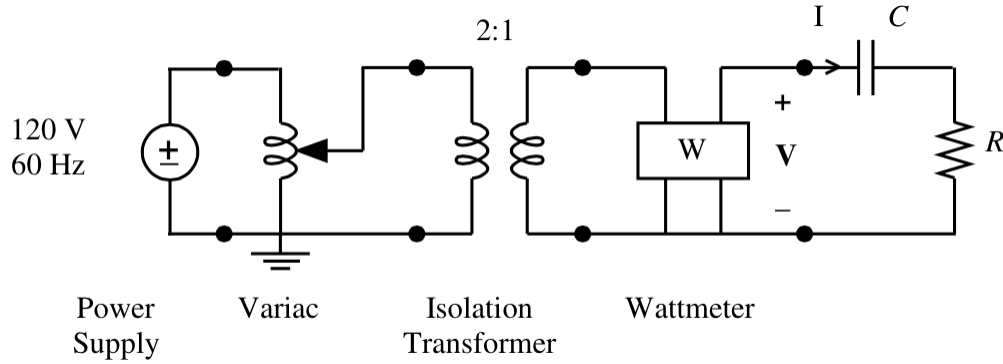

Figure 4: RC pf measurement circuit setup
- a wattmeter between the isolation transformer and the component board to measure real power (shown in Figure 4).
Figure 4 represents the wiring diagram for the RC circuit; the RL circuit is similar with the substitution of and inductor L in place of the capacitor C .